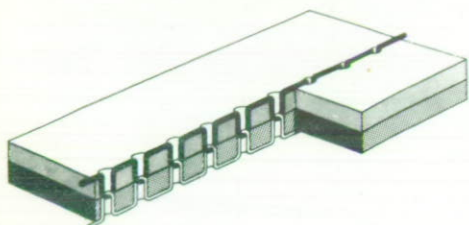

Fig. 19
11. The straight seam (Fig. 19)